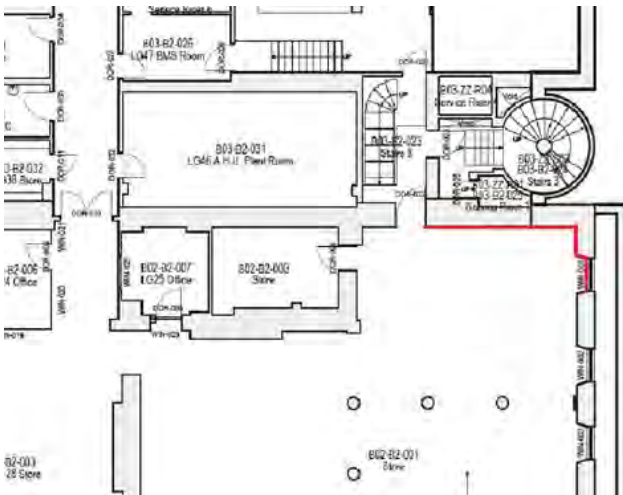

Figure 1 Extent of proposed waterproofing works
- The defective lime plaster finishes to the work area marked in red in Figure 1 have been removed.